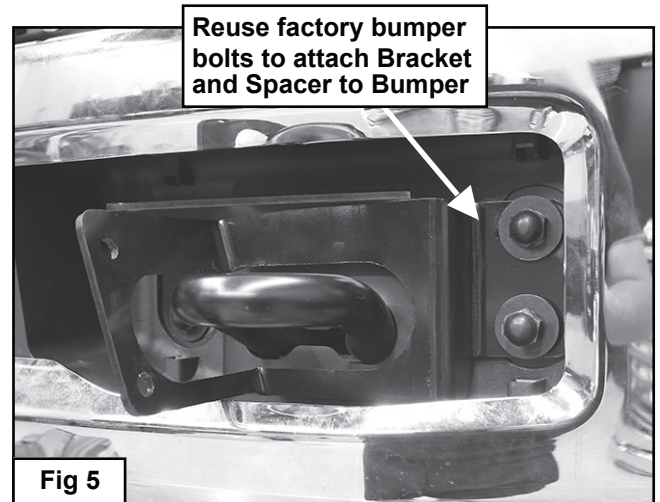

Fig 5
Select the driver side Mounting Bracket and (1) Spacer Plate, (Fig 4). Place the Spacer over the holes for the bumper bolts. Reuse the factory bumper bolts to attach the Mounting Bracket to the Spacer and bumper, (Fig 5). Make sure there is clearance between the top and bottom of the Mounting Bracket and the opening in the bumper. Do not tighten hardware at this time.